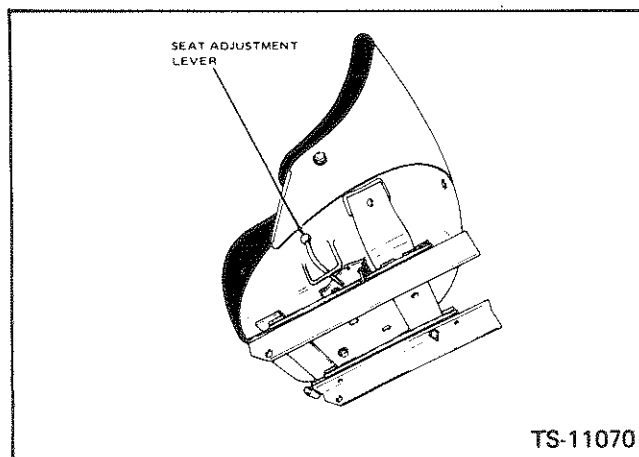

Fig. 2-2 Operators Seat Adjust Lever
29. **Seat Adjustment Lever** — The operator's seat can be shifted forward or backwards to suit the individual, by moving the lever on the left hand side of the seat forward and shifting the seat to the desired position. Fig. 2-2. An additional adjustment in the height of the seat is offered. This can be done by removing the seat bracket